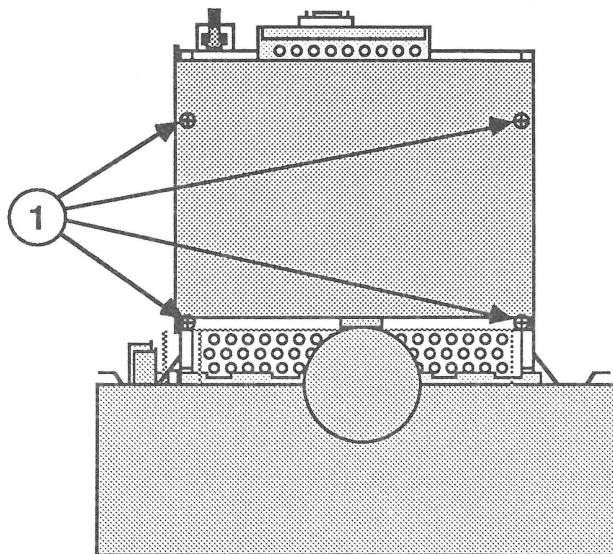

FIGURE 35
9. Turn the monitor so that the bottom is facing you. Position the bottom metal screen up against the chassis frame and replace the four screws (Figure 35, #1).